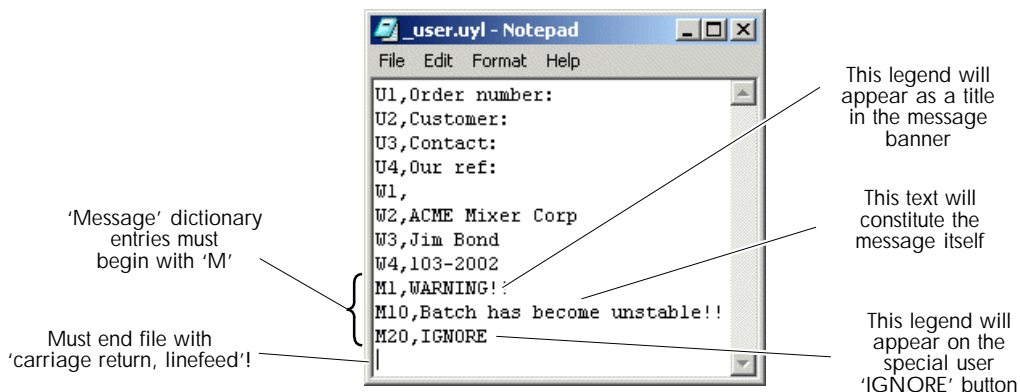

Figure 7-8 The modified user dictionary ‘\_user.uyl’
You will recall that you specified several *user dictionary* references when you were parameterising the PNL\_MSG block in the LIN database (see Figure 7-8). These dictionary items were to appear in an operator message. You must now add these references to the existing user dictionary — stored in the file ‘\_user.uyl’ — so that they can be accessed when the application is run.
- 2 Add three lines to the end of the existing text, referring to Figure 7-8. Note that they all begin with ‘M’, which tells the system that these are for *messages*. The number after the ‘M’ is as usual the reference number of the text string following the comma.